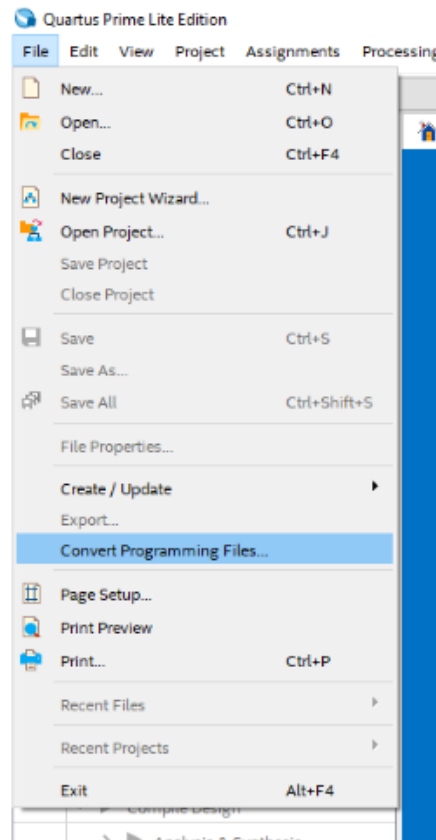

Figure 1: Convert SOF to JIC - Step 1
1. Open “Quartus Prime 16.1 Lite Edition” from the desktop icon. Select File → Convert Programming Files, as shown in Fig. 1. The Convert programming file window will open now.